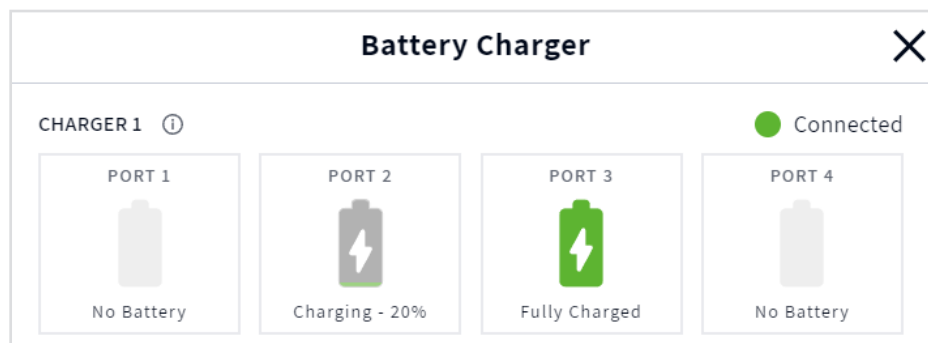

Fig. 1.10a
3. Tap the **Chargers** tile on the HOME screen to view charging status (if within range). Fig. 1.10a shows that Ports 2 and 3 have docked batteries. The battery in Port 2 is charging while the battery in Port 3 is fully charged.